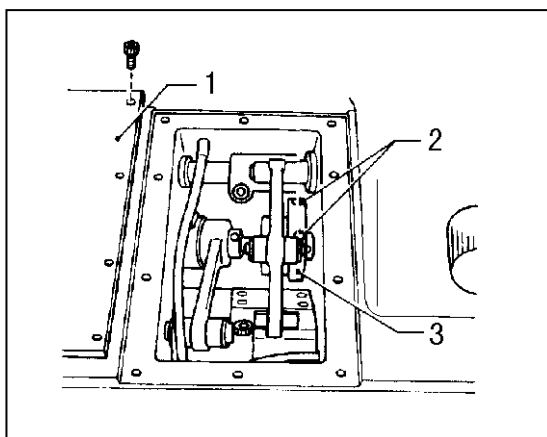

Fig.28
(1) Horizontal feed direction (showed by Fig.28)